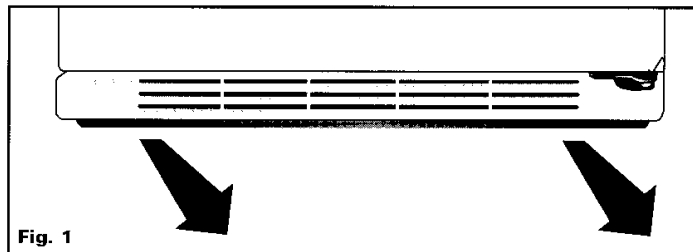

Fig. 1
- Grasp both ends of the base grille and pull straight out to remove (see fig. 1).